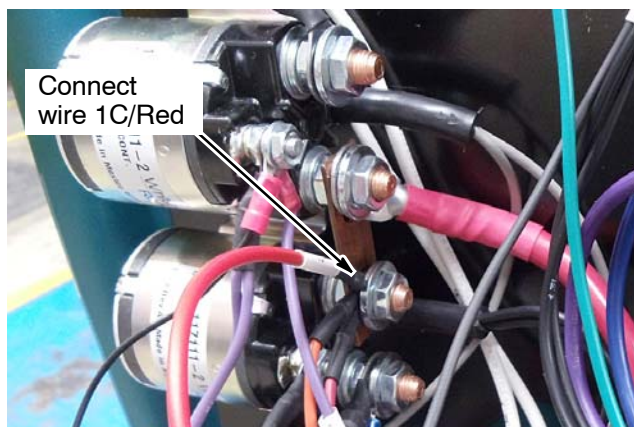

Fig. 16
15. Connect wire 1C/Red from the new wire harness to the main contactor terminal as shown (Figure 16).